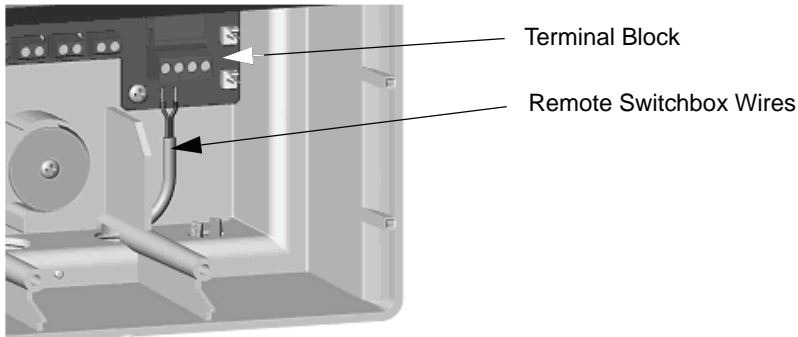

Figure 3-6 Terminal Block Connections
1. Install switchbox wires into the first and second terminals (see *Figure 3-6*) and secure each wire. Wires must be completely secured to insure proper operation of the unit.